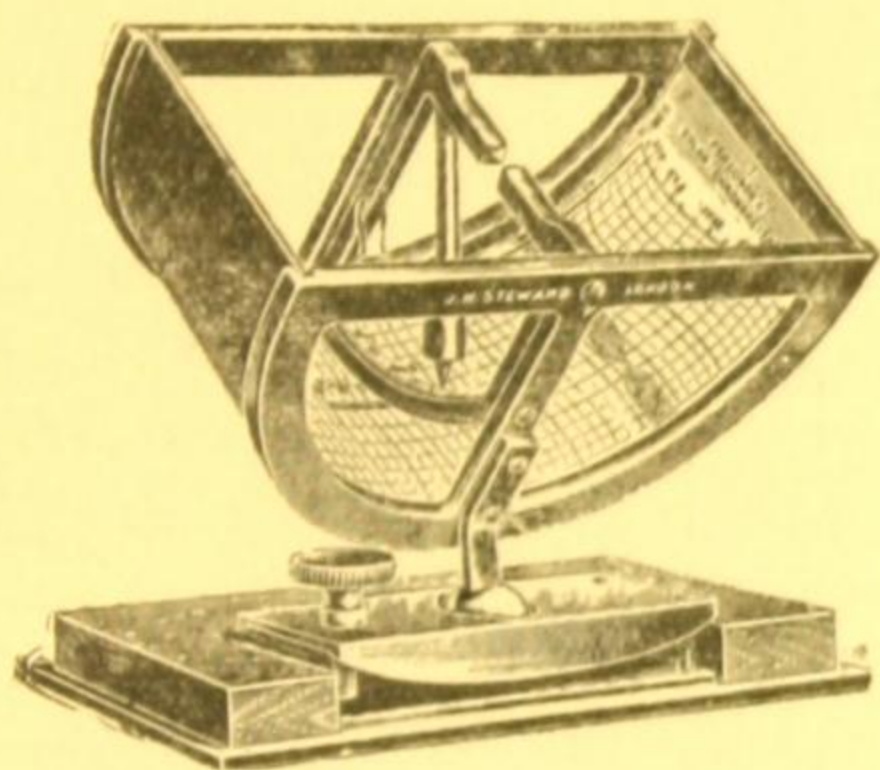

Fig. 126.
- SM 467.—**Model A. "Ferguson" Solar Chronometer**, 4 inches diameter. Adapted for use in any country between 60° North and 60° South latitude..... Fig. 126   £5 15 0